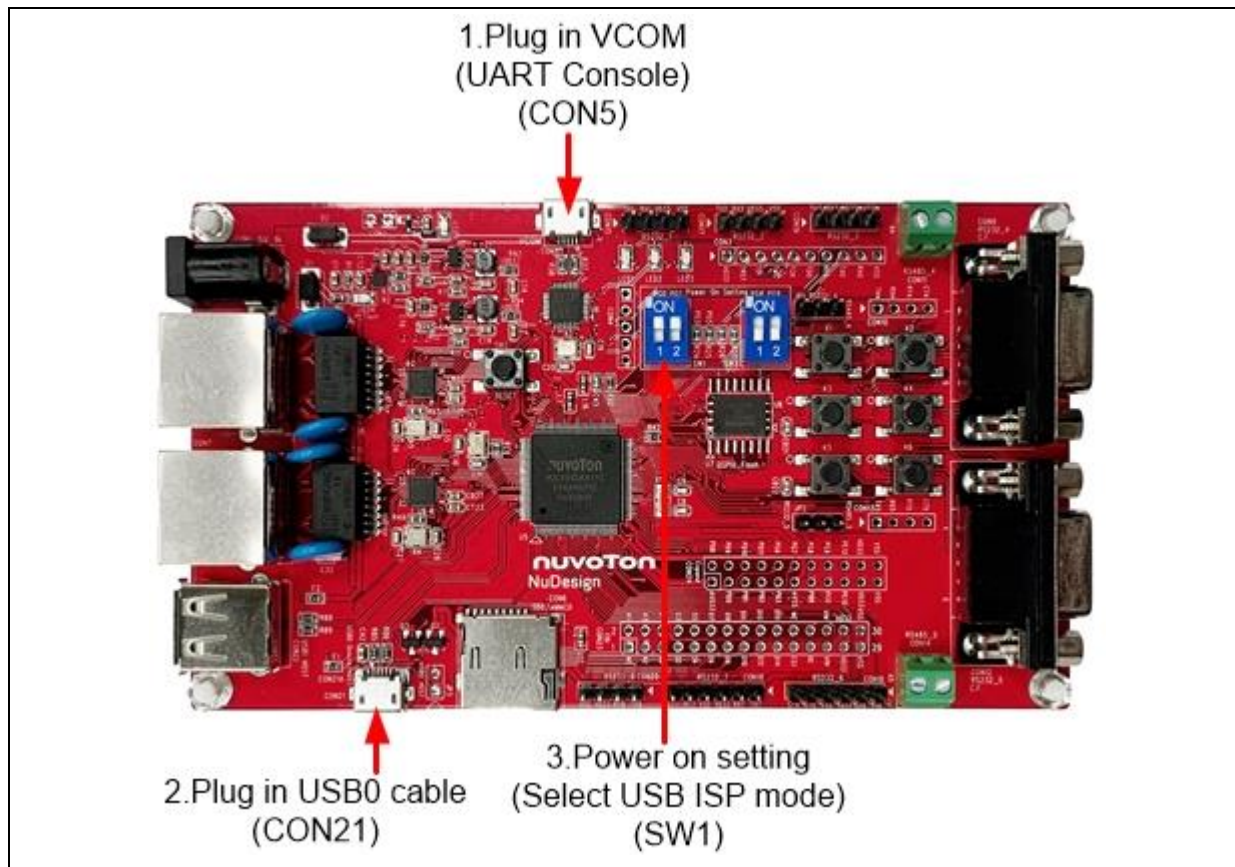

Figure 4-3 Hardware Setting
2. Set SW1(Power On Setting) to Boot from USB(shown in Table 4-1 and Figure 4-3). Connect USB0 to PC and connect UART console to PC.
- A. Set SW1(Power On Setting) to Boot from QSPI 0 Flash(refer to Table 4-1 and Figure 4-3).